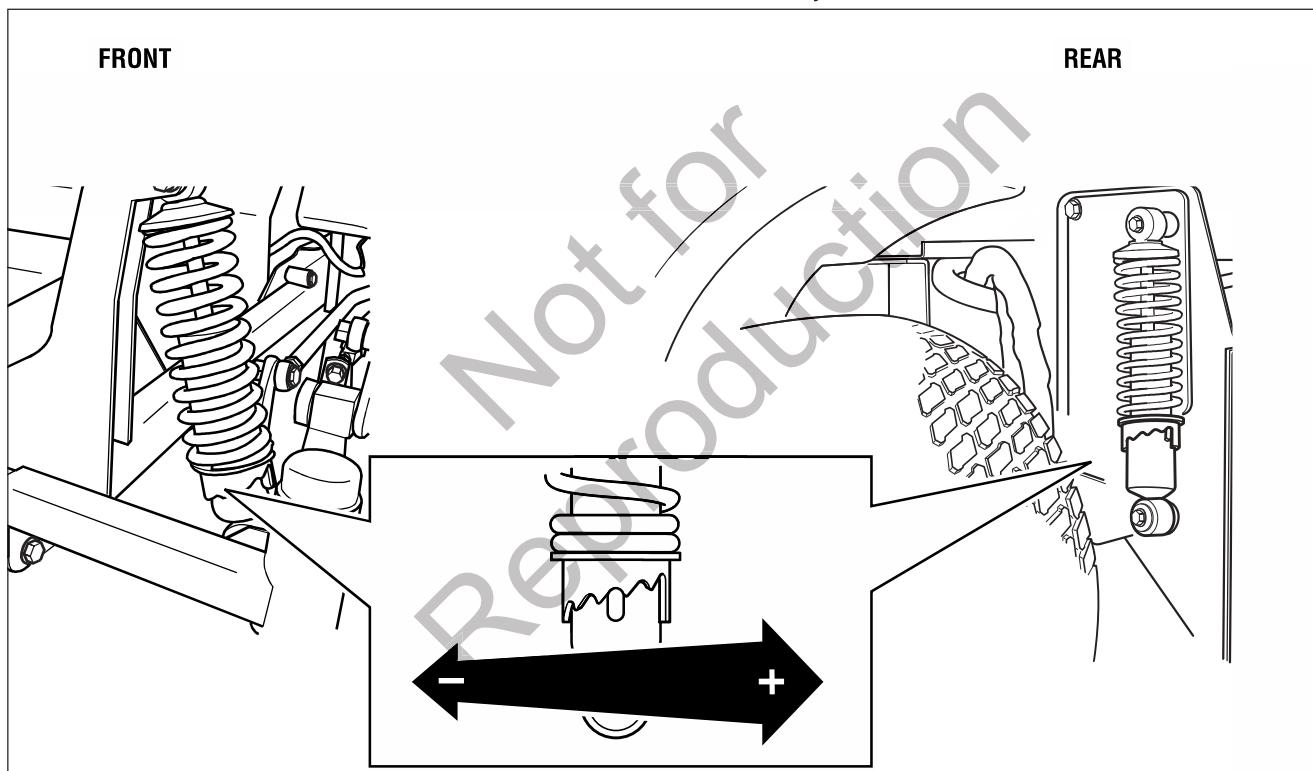

Figure 43. Suspension Adjustment
2. See Figure 43. Using the supplied spanner wrench (p/n 5022853), insert the tip of the wrench into the notch in the pre-load adjuster. While holding the wrench with both hands, turn CLOCKWISE to decrease the pre-load, turn COUNTER-CLOCKWISE to increase the pre-load. Make sure that for each pair of shocks that the left-hand and right-hand are set to the same amount of pre-load.